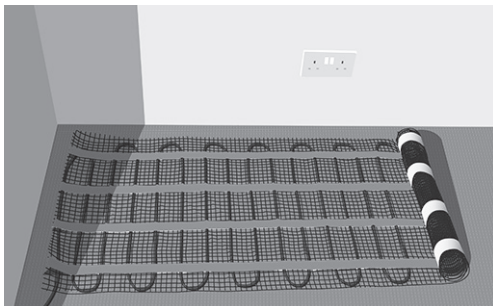
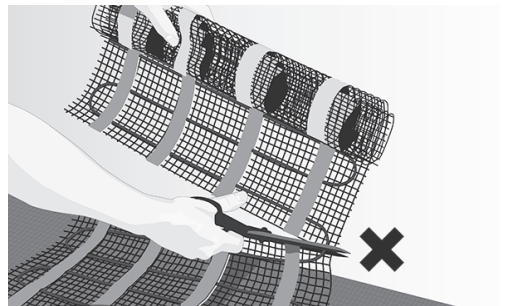
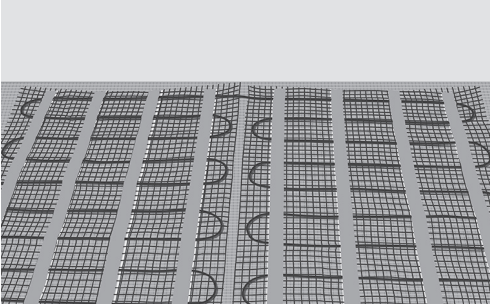

Fig. 4. Roll out the mat
Fig. 5. Cut and turn without damaging the cable
Fig. 6. Floor covered with mat
8. Roll out the mat onto the floor mesh side up until you reach the wall or an obstruction (Fig. 4). Cut-and-turn the mat to continue laying it. Do not cut the cable (Fig. 5). Repeat this until you have covered the floor (Fig. 6).